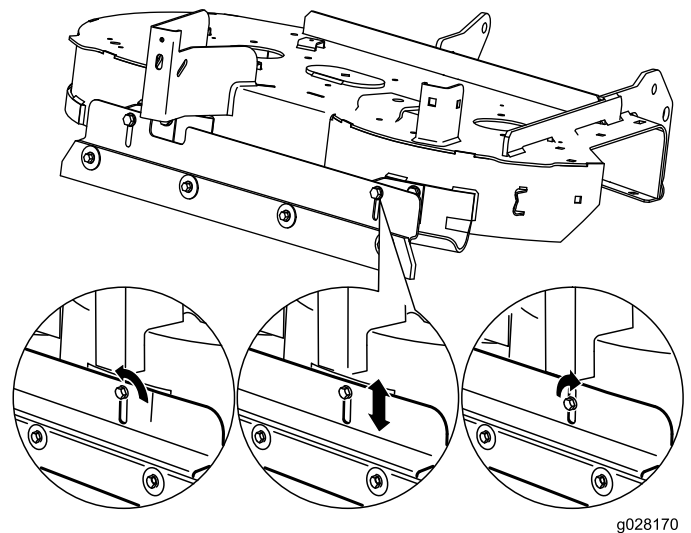

Figure 4
For best results using normal striping, set the bottom edge of the wiper to 1/2-1/4 inch below the bottom of the deck (Figure 4).
3. Loosen the 2 washer-head screws (self-threading) that secure the striping bracket (Figure 4).
- Increase the striping effect by lowering the striping bracket until you attain the desired striping effect (Figure 4).
- Decrease the striping effect by raising the striping bracket until you attain the desired striping effect (Figure 4).
6. Tighten the 2 washer-head screws (self-threading) that secure the striping bracket (Figure 4).